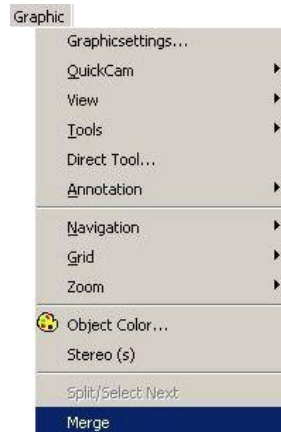
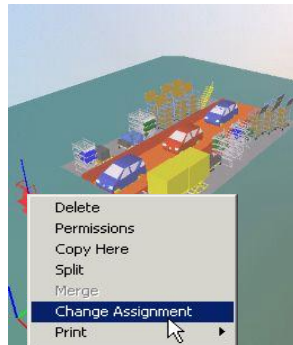
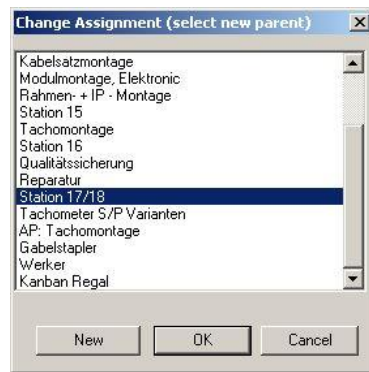

Figure 65: Split/Select Next and Merge Functions in the Graphic Menu
Figure 70: Change Assignment Context Menu
Figure 76: Selecting the New Structure in the Dialog
To execute a new assignment, you first have to select an object in the graphic. You can assign objects using the **Graphic** menu (*Please refer to the Figure 65*) or the right mouse button context menu (*Please refer to the Figure 70*).
- 1) You have to select the object in the graphic to change the assignment of an existing object. *Please refer to the Figure 70.*
- 2) After you have clicked **Change assignment** (Please refer to the Figure 70), select the new structure level in the open dialog (in the screenshot it is the station 17/18). Confirm the selection with **OK**. Please refer to the Figure 76.